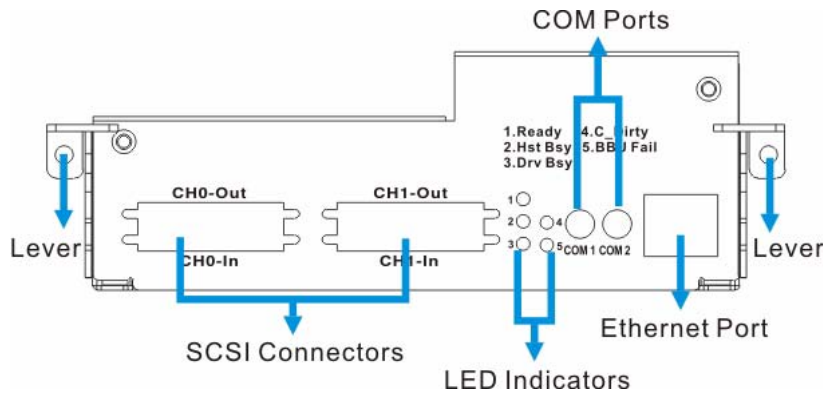

Fig. 2.9 Controller Module Interfaces
The heart of the RAID controller subsystem is the 320MB per second SCSI-to-SATA controller board. The controller comes with two (2) pre-set SCSI-320 host channels, CH0 and CH1. The subsystem connects to the host through a VHDCI SCSI input connector, while the output connector is ready to connect external devices. (See *Figure 2.9*)
All external interfaces that connect to external devices are located on the controller module rear panel shown in *Figure 2.9*. The interfaces are listed below.
- Host Ports: Two (2) SCSI-320 host channels (CH0 and CH1 in *Figure 2.9*) connect the subsystem to the host through two (2) dual-stacked VHDCI SCSI connectors.
- COM ports: The controller module comes with two (2) COM ports. One port is used to access the controller-embedded configuration utility through the network, and the other connects to a UPS connection. Please refer to *Section 7 Appendix A: Uninterruptible Power Supply* for the instructions on connecting a UPS.
- Levers: Two (2) levers located in the sides of the controller board rear panel provide easy controller module installation and secure the controller module in place.